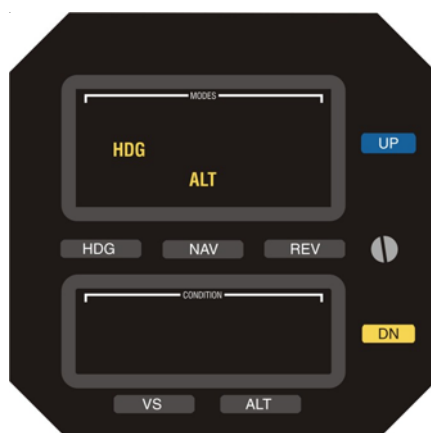

Fig. 2-6. AP Display, HDG and ALT HOLD Modes Engaged
36. Press ALT mode selector switch to engage altitude hold mode.	HDG and ALT annunciations only appear on AP display, as shown in Fig. 2-6.